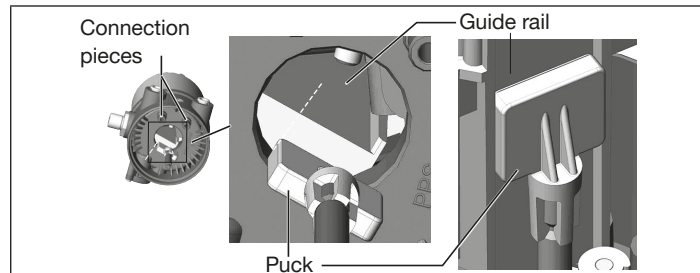

Fig. 6: Aligning the puck
1. the puck can be inserted into the guide rail of the positioner (see “Fig. 6”) and